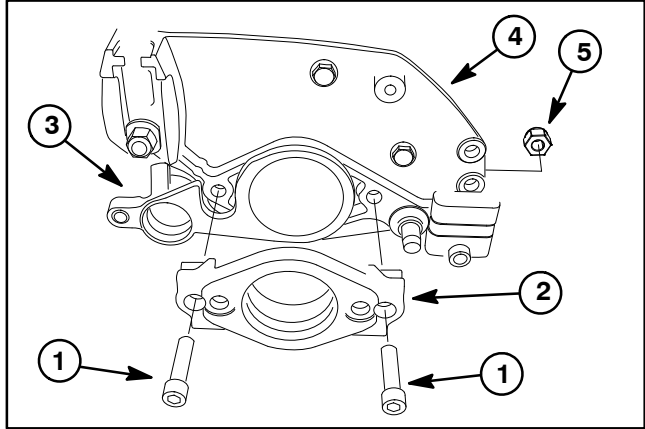

Figure 19
5. To remove support plate assembly from left side of cutting unit (Fig. 19):
A. Remove two (2) socket head screws and lock nuts that secure motor mount to cutting unit (Fig. 19). Remove motor mount from cutting unit.
D. Position motor mount to groomer support plate (Fig. 19). Secure motor mount and support plate to cutting unit with two (2) socket head screws and lock nuts.